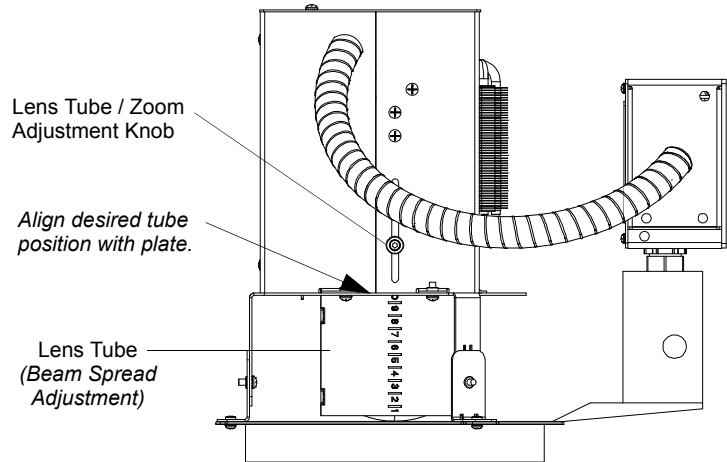

Figure 8: Lens Tube (Beam Spread Adjustment) Setting
Step 6. As shown in **Figure 8**, adjust luminaire beam spread as desired by loosening the lens tube / zoom adjustment knob and moving lens tube in or out. Once adjustment is complete, re-tighten lens tube / zoom adjustment knob. Note, beam spread can be adjusted at anytime throughout the installation process and after-installation as desired.